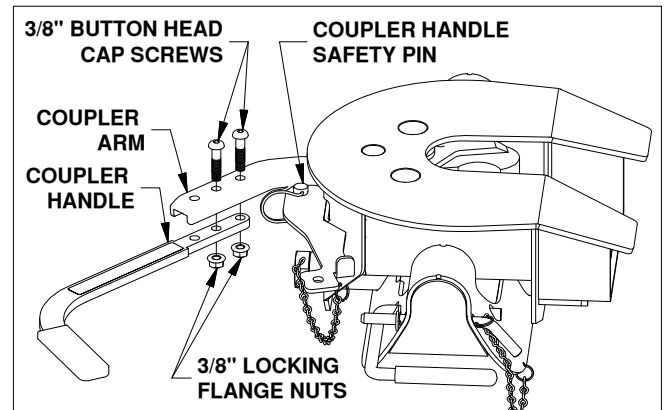

Figure E1: View looking down at side of coupler.
1. **Open coupler.** Locate the two 3/8" x 1-1/4" button head cap screws and the two 3/8" flanged lock nuts provided in a bolt bag. Pull out the coupler arm and pin it with the safety locking pin near the base of the arm, as shown in Figure E1.
2. **Secure handle.** Using the button cap screws and the lock nuts attach the coupler handle to the arm and tighten, see Figure E1. Pull out the coupler handle safety pin.